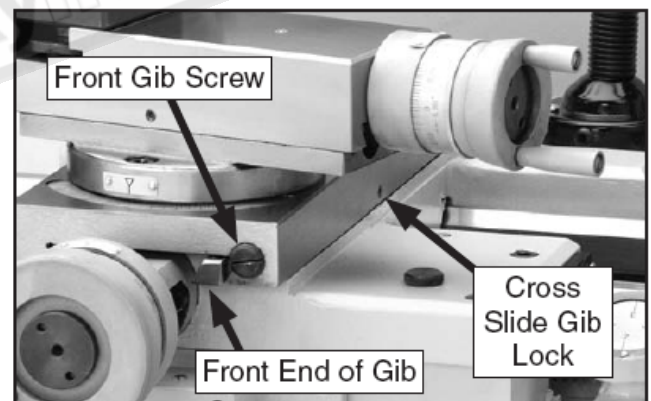

Figure 60
The cross-slide and compound slide on this lathe each use a long steel wedge called a gib that is positioned between the component and its dovetailed-ways. At the end of each gib is a gib screw one of which is shown in **Figure 60**. The screws at each end of the gib oppose one another to move and hold the gib in a forward or aft position. Depending which direction the gib is moved and held, the space between the sliding ways is increased or decreased to control the rigidity of the cross slide and compound slide.
2. Loosen the gib lock shown in **Figure 60**